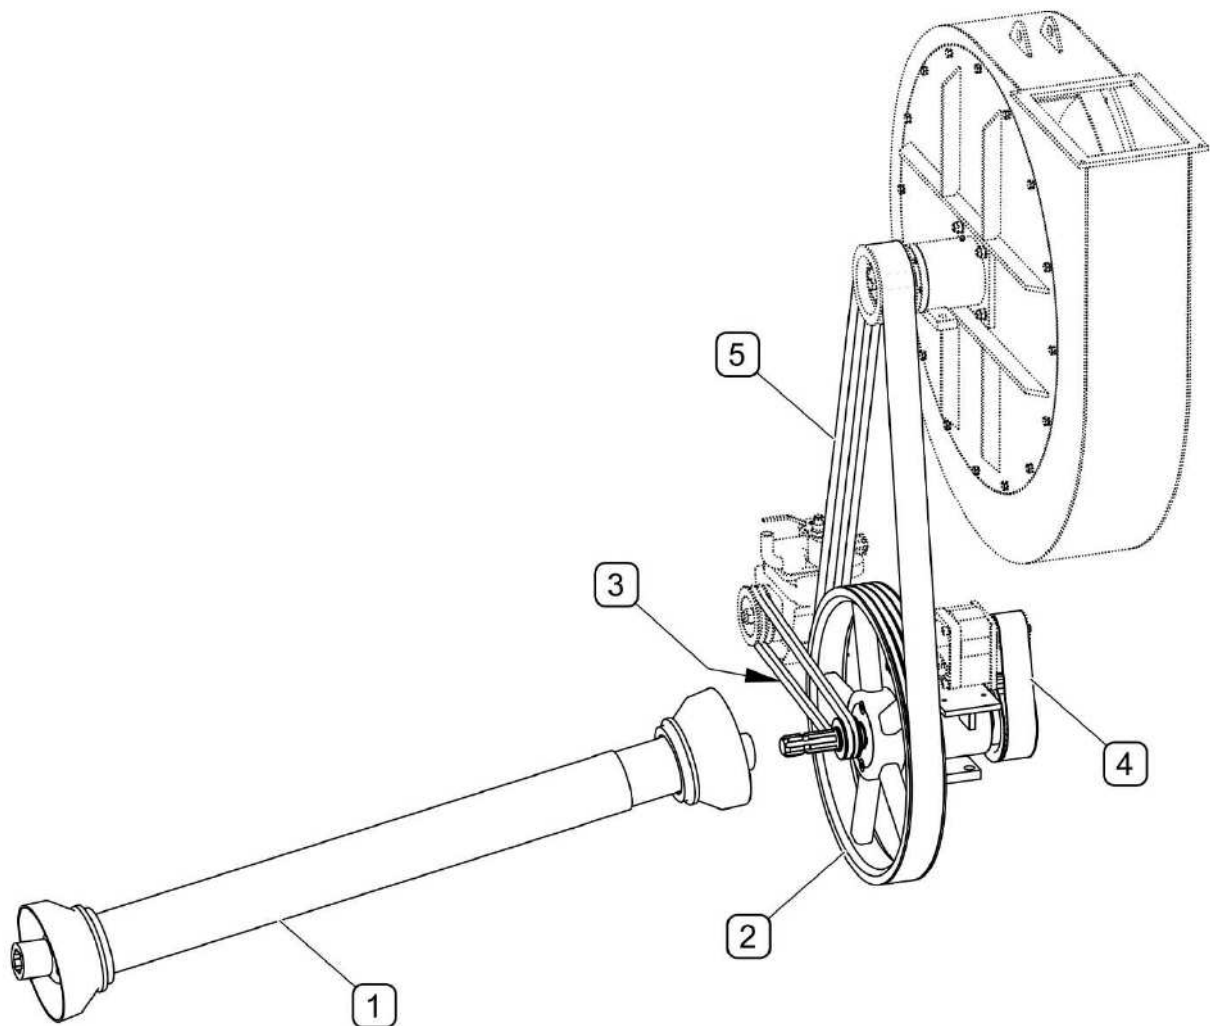

FIG. 3.15 Drive system
(1) - PTO shaft; (2) - power reception system; (3) - vee belts of water pump drive system; (4) - cogbelt of oil pump drive system; (5) - combined belt of fan drive system
During operation, the machine's power reception system (FIG. 3.15) is connected to the tractor's PTO by means of PTO shaft (1). Water pump, oil pump and suction fan are driven by means of belts (3), (4) and (5).